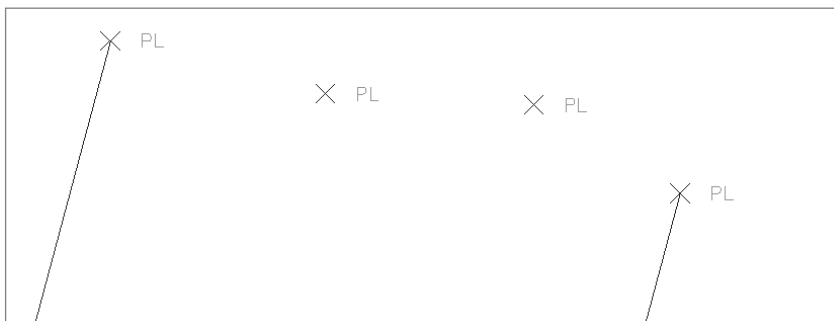

Figure 3.6
1. Open the drawing file `LinesCurves1.dwg` (or continue working in it if it's already open). Note that there are Civil 3D points along the rear of the northern lots (see Figure 3.6).